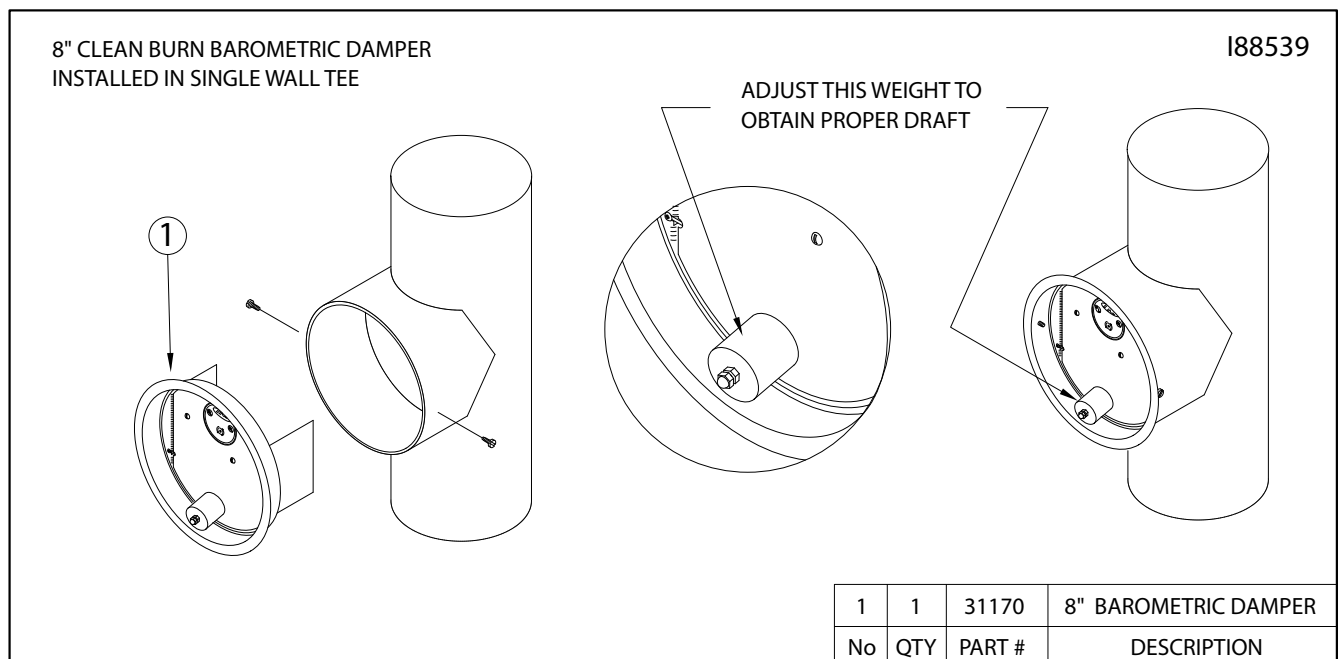

Figure 4N - Installation of Barometric Damper
2. Refer to Figure 4N. Install the barometric damper in the opening of the tee. Use a small spirit level to make sure that it is properly level.
3. Install two self-tapping screws as shown in Figure 4N (i.e. one on each side of the barometric damper) to hold the damper in place. DO NOT install a screw at the bottom of the barometric damper, or the flapper of the damper will not operate correctly.